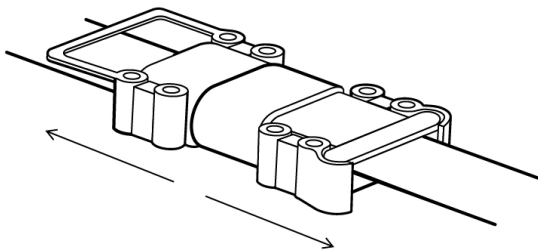

Figure 11. Disconnecting the charging connectors
2. At the end of the charging stage, the CHARGE signal will be permanently lit; then disconnect the charging connector of the Charger from the Accumulator (Fig. 11).